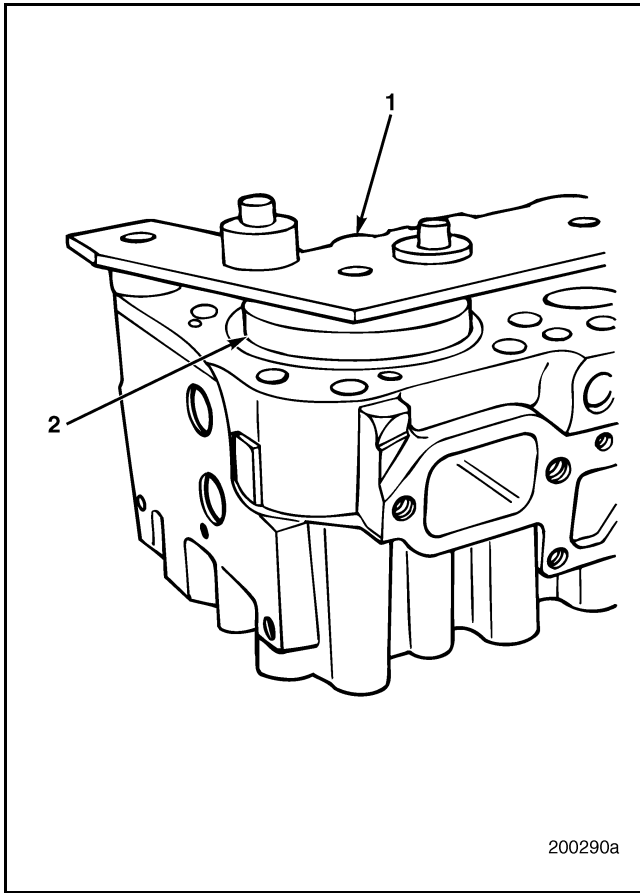

Figure 252 — Alignment Fixture Placement
3. Place the alignment fixture over the cutter base as shown in Figure 252 to ensure proper positioning. With the fixture in place, tighten the wing nuts on the hold-down capscrews. Remove the alignment fixture.